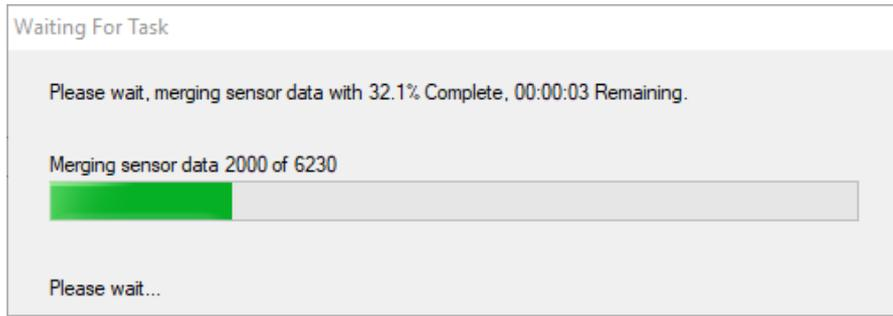

Figure 16
5. The **Waiting for Task** window is displayed, with a bar illustrating the progress of the Merge operation. See Figure 16 overleaf: